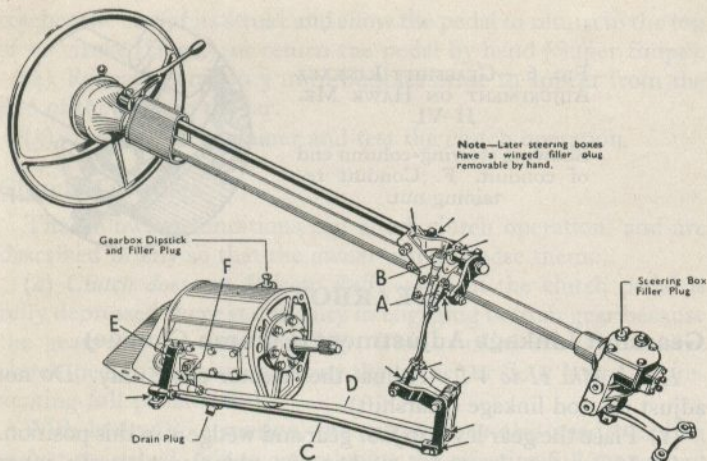

FIG. 8.—GEARSHIFT LINKAGE ADJUSTMENT ON SUPER SNIPE Mk. II AND III AND PULLMAN Mk. II-IV.
- (1) Keep the gear lever in *neutral*.
- (2) Find the mid-point of traverse of the gearbox selector lever (*F*), Fig. 8.